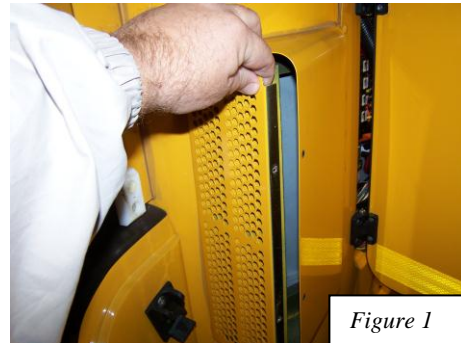

Figure 1
1. Remove four screws and retain. *Figure 1*